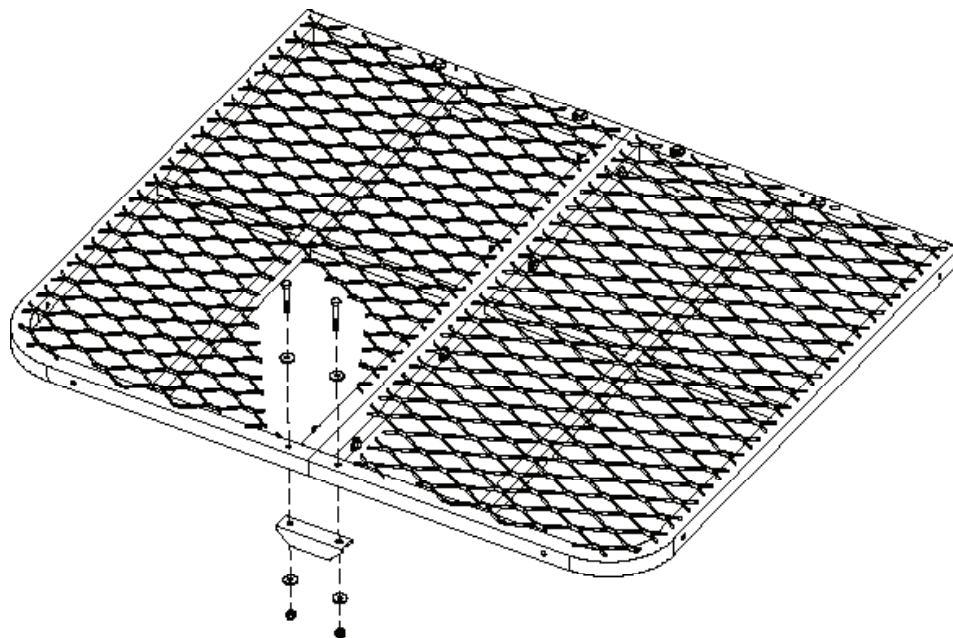

Figure 18
STEP 3: Bolt the rear platform reinforcement bracket to the bottom of the platform using two (2) 2-1/2" bolts, two (2) 1/4 x 1-3/4" bolts and place one (1) washer under the head of each bolt and one (1) washer under the nuts as shown in Figure 18.